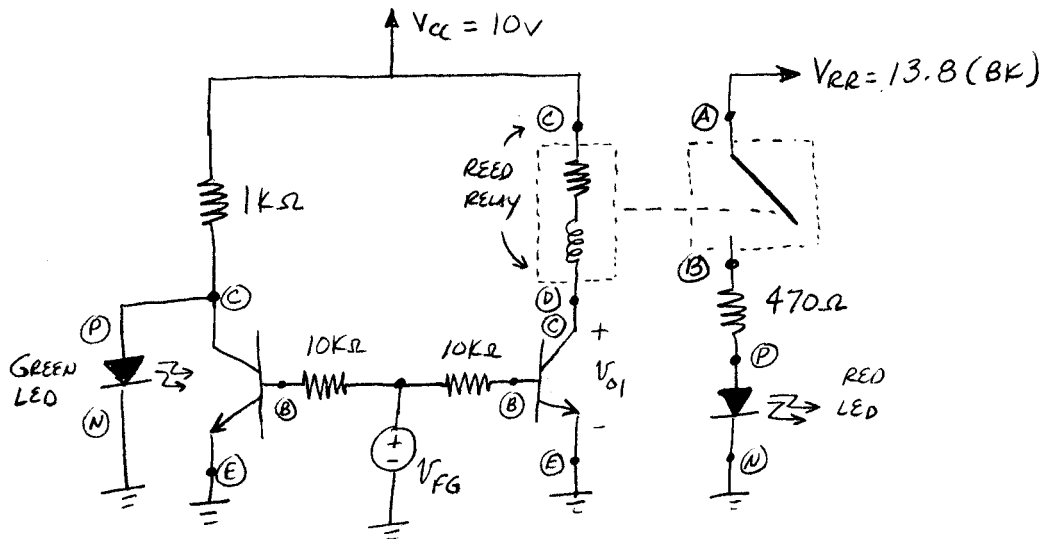
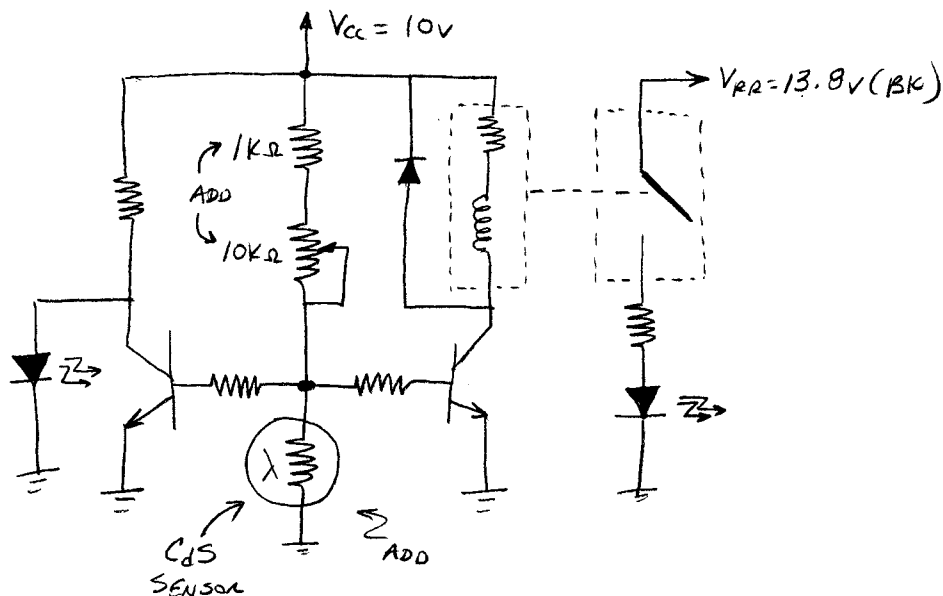

Figure 3. Two inverters and relay circuit
Figure 5. CdS photocell sensor
With the BK Precision DC Power Supply (Model 1680) **OFF**, use a banana wires to connect this supply to the proto-board. Please check that the ground of the proto-board is connected to the black terminal of the BK Precision power supply. Double check that all power supplies are **OFF** and build the circuit as shown in Fig. 3 using the remaining parts still assembled from your inverter. The pinout for the reed relay and
2. Turn **OFF** both the power supply and disconnect the function generator. Replace the function generator shown in Fig. 3 with a voltage divider formed with a resistor / pot and the CdS photocell as shown in Fig. 5.
I \_\_\_\_\_ (Lab instructor's initials) verify that Fig. 5 is wired correctly.